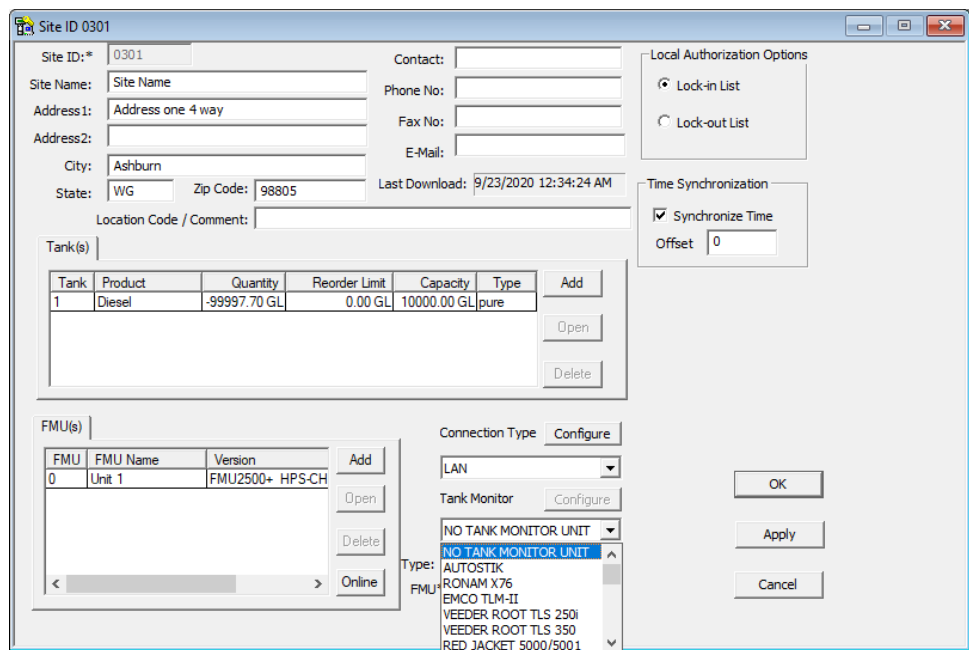

Figure 3. Site ID Window
2. Select Tank Monitor (See Figure 3 on the following page). Some tank monitors may not be listed. Many tank monitors use Veeder Root emulation, and the applicable Veeder Root tank monitor may be selected.